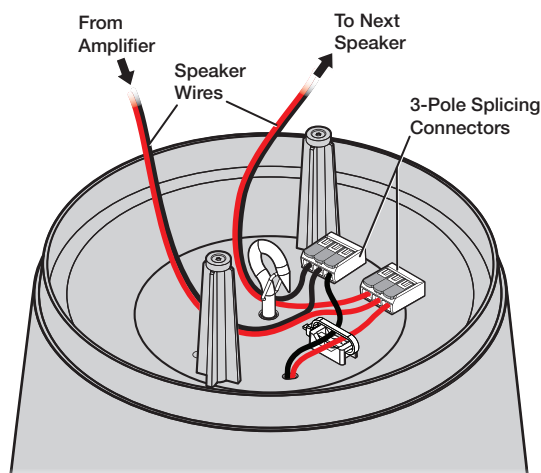

Figure 19. Using 3-pole Splicing Connectors
9. When daisy chaining speakers, run a speaker wire from each 3-pole splicing connector through the speaker cap and to the next speaker (see figure 19, on the previous page).